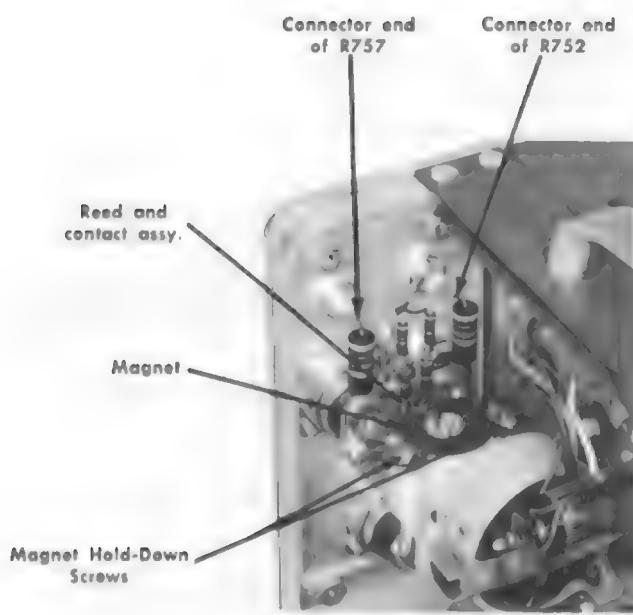

Fig. 6-7. Mercury pulser assembly. Test points for step 5h are shown also.
(2) Loosen the magnet hold-down screws (see Fig. 6-7) and carefully move the magnet closer to or away from the reed and contact assembly. At the same time, shift the magnet slightly from side to side.
*For this check, turn off the Type 109, connect a 12" jumper lead from the +10 V test point (see Fig. 6-3) to the connector end of R752 (see Fig. 6-7) and turn on the Type 109. Check waveform amplitude and duration. Then, repeat the check by connecting the jumper lead between the same +10 V test point and the connector end of R757 (see Fig. 6-7).